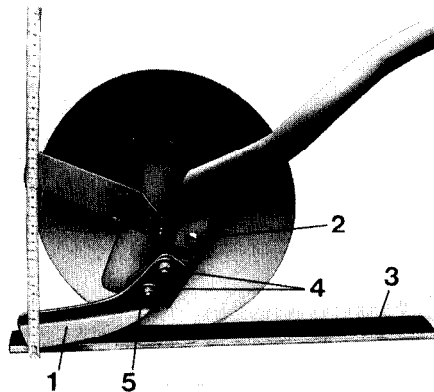

Fig. 43
8.7.1 Depth limiter for roll disc coulters (Fig. 43/1)
On light, straw-free soils, it is imperative that the roll coulters are additionally fitted with depth limiters (Fig. 43/1). These are fitted by inserting a clevis pin (Fig. 43/2) which is to be secured by a cotter pin.
To obtain a sowing depth on medium soil types of approx. 2.5 cm – e.g. with grain sowing – the roll coulters disc is placed on level ground and an approx. 1 cm thick plank (Fig. 43/3) is laid beneath the depth limiter (Fig. 43/1). In this position the bolts with nuts (Fig. 43/4) which connect the depth limiter skid with the upper part of the depth limiter are tightened.
If, on the other hand, a lesser sowing depth is required, e.g. on extreme light soils, the skid and roll coulters disc must be set to uniform heights. In extreme cases, it is even possible for the skid to be lower than the roll coulters disc. In order to attain the required position, place the M 6 hex. bolt (Fig. 43/5) in the second hole in the top of the depth limiter.